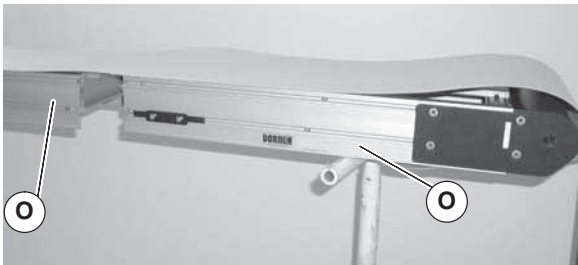

Figure 7
- Roll out conveyor belt and place conveyor frame sections (Figure 7, item O) into belt loop.